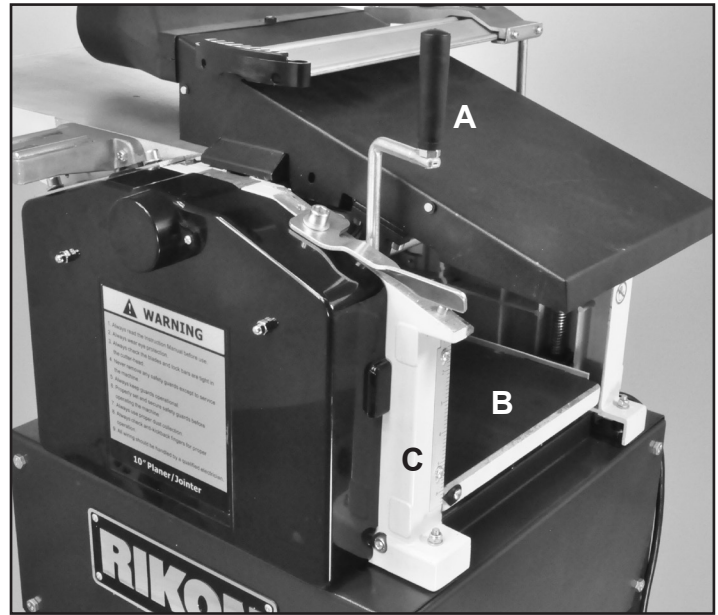

FIG. 22
Height adjustment of the planer's table is made with the Handle (#130, FIG. 22, A). One full turn of the crank changes the height of the Planer's Table (#142, B) by 1/8".
2. The cutterhead guard needs to be lifted up and the Dust Hood (#194) pivoted onto the infeed table in the planing use position, so adjustments can be made. FIG. 22.
1. The outfeed jointer table and the fence needs to be removed, and the dust hood lifted up and pivoted back onto the cutterhead to gain access inside of the planer. See page 14, step 2 and FIG. 22 on this process.